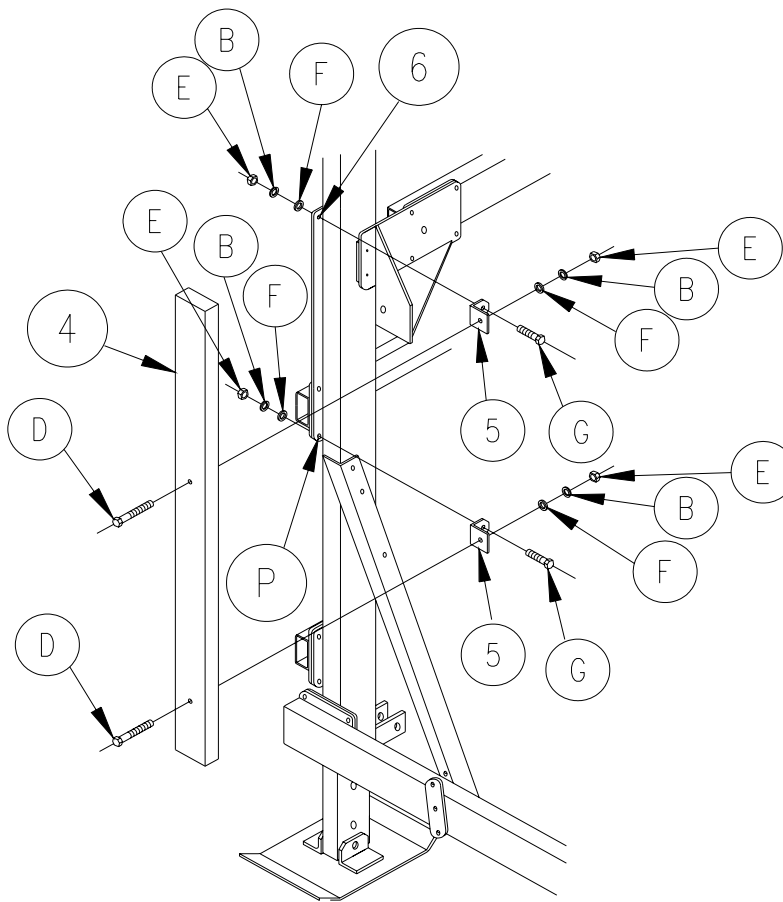

Figure 2-6.
1. **Refer to Figure 2-6.** Remove one 3/8" x 1-1/4" Hex Head Cap Screw (P), from the bottom end of the upper horizontal support tube. Insert a hex head cap screw (G), through the mounting angle leg (5), that has mitered corners and reinstall in support tube. Using one each: flat washer (F), split-lock washer (B), and hex nut (E), fasten mounting angle securely.